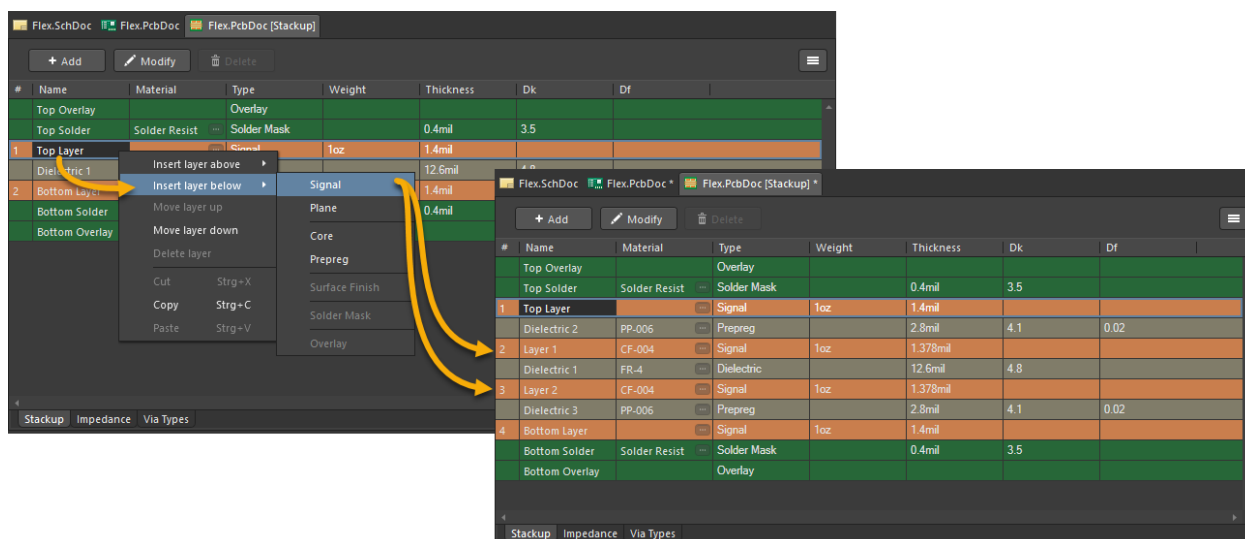

Figure 2. Adding a new layer in Layer Stack Manager
- Select **Signal** to add a signal copper layer as shown in Figure 2.
9. If this option was disabled for you, insert a Signal layer below Layer 1 so that your stackup is the same as Figure 2.